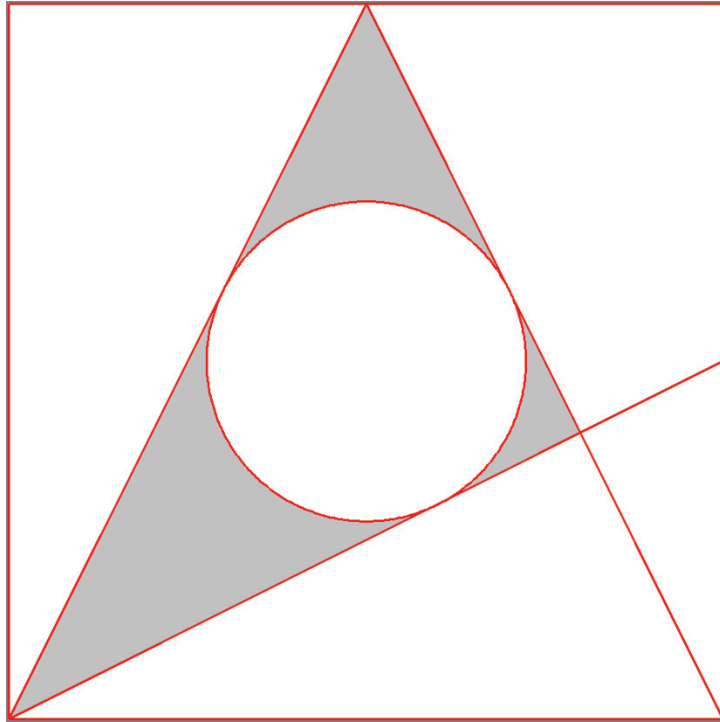

FIGURE 11.1 The geometric drawing you will dimension
1. Go to the book's web page at www.sybex.com/go/autocad2014essentials, browse to Chapter 11, get the file Ch11-A.dwg, and open it (see Figure 11.1).